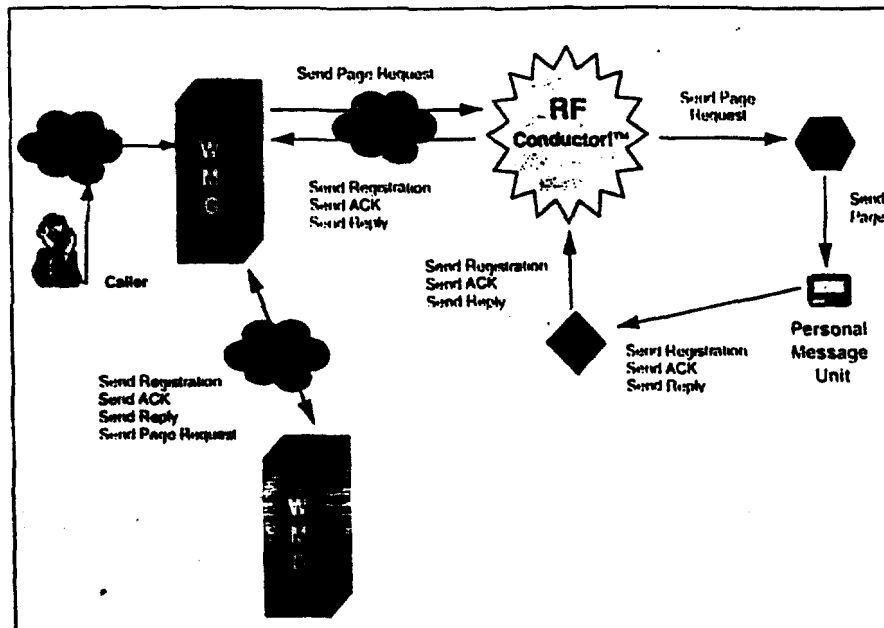

Figure 1. The message flow within a two-way system.
more appealing to service providers will be their ability to increase the capacity of their existing channels. Motorola's ReFLEX transport builds on the foundation of a forward channel protocol that has much in common with FLEX, but adds support for and interworking with a reverse channel. ReFLEX allows wide area coverage for two-way advanced messaging via an inbound channel and associated base receiver. This inbound channel enables the messaging unit to automatically register the location of the user and confirms receipt of each message without any subscriber action. In addition, ReFLEX allows the subscriber to reply to a message as well as initiate unsolicited messages through the two-way messaging unit preprogrammed message set or via external keyboard (PC) input. The ReFLEX protocol supports a "Where are you?" message that allows the system to pinpoint the location of a subscriber within a geographical area prior to sending a long message. This allows the infrastructure to use a single transmitter to send the message, saving on unnecessary broadcasting and thereby enabling increased capacity through frequency reuse (see Figure 1).